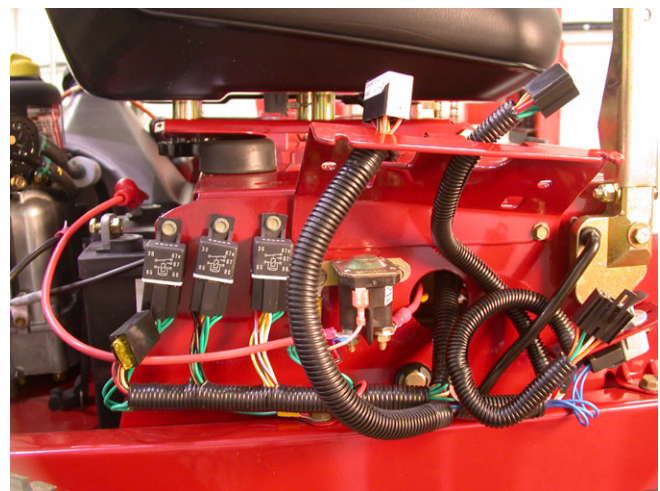

Figure 13.9
- 13.9. If any electrical connections are present disconnect or remove switch from console. See Figure 13.9.